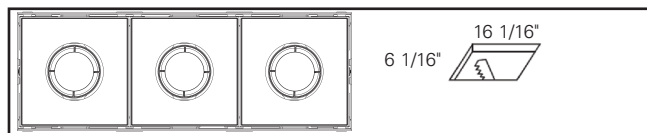

Figure 1.11.
- 3 Light: 16 1/16" X 6 1/16" (Figure 1.11)